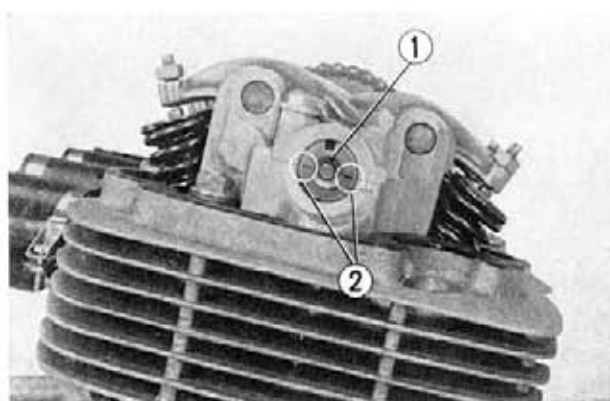

Fig. 3-23 ① Camshaft
3. Turn the crankshaft to align the timing index line (on the tachometer gear end) so that it is parallel with the cylinder head mating surface (with the key groove toward the top) and then remove the camshaft holder cap. (Fig. 3-23)